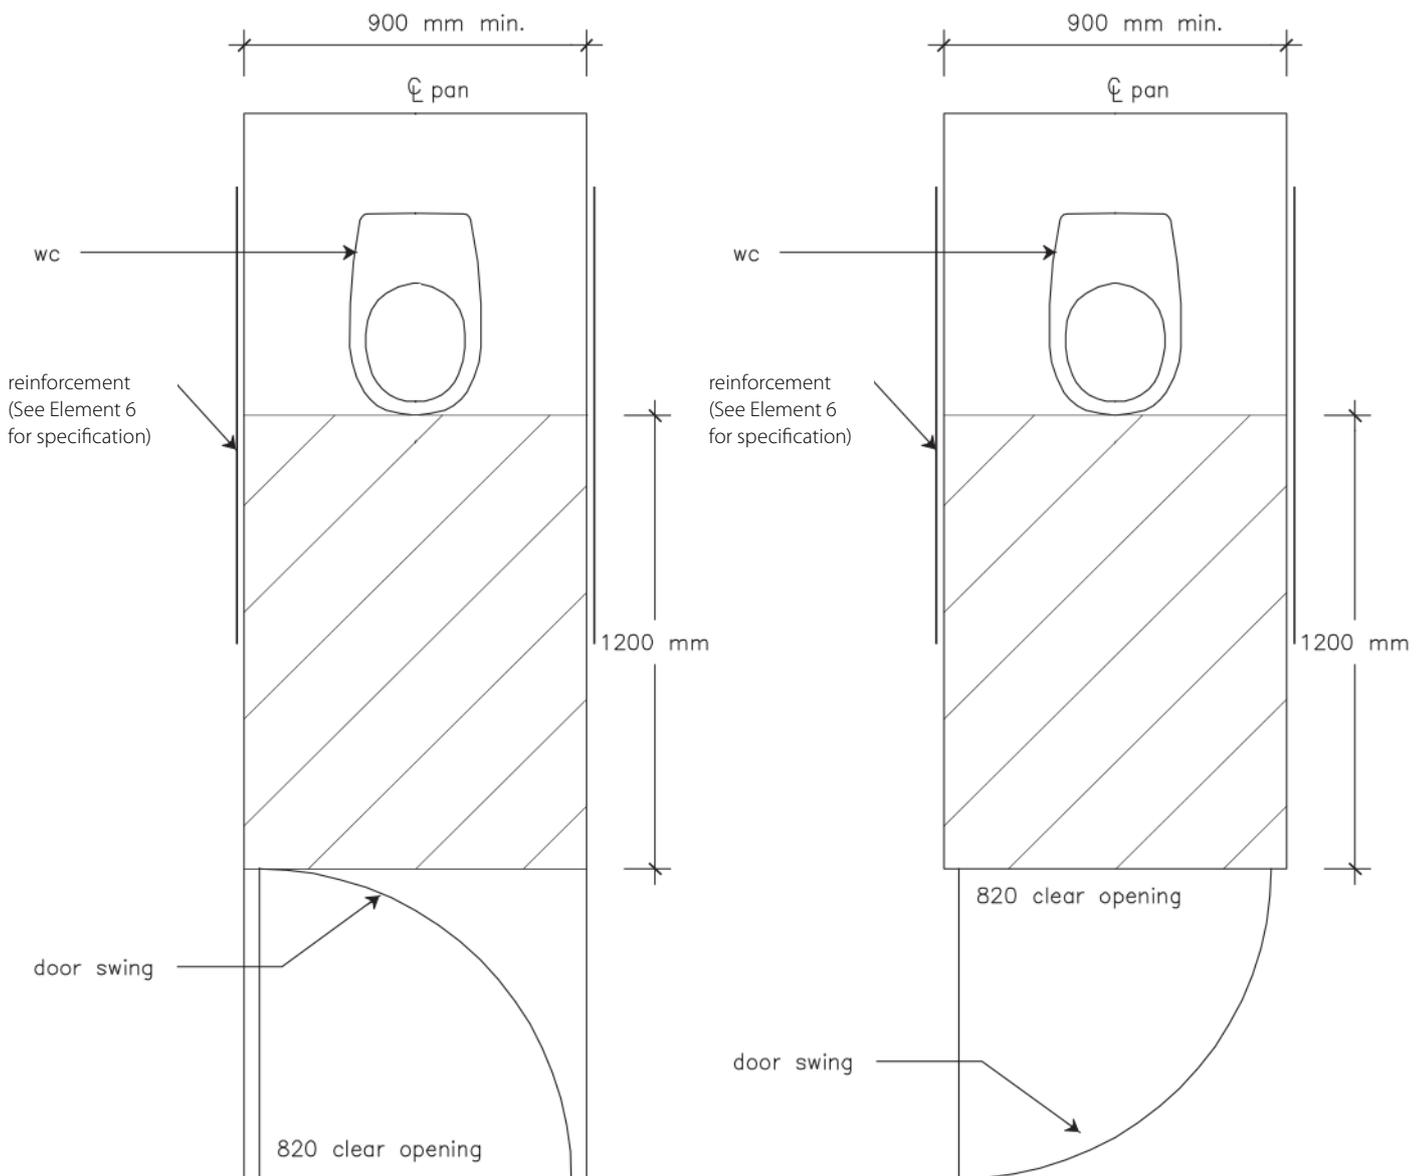

Figure 3(a) Silver level ground (or entry) level toilet layout and space requirements in a separate room.
- ii. a minimum 1200mm clear circulation space forward of the toilet pan exclusive of the swing of the door in accordance with Figure 3(a).